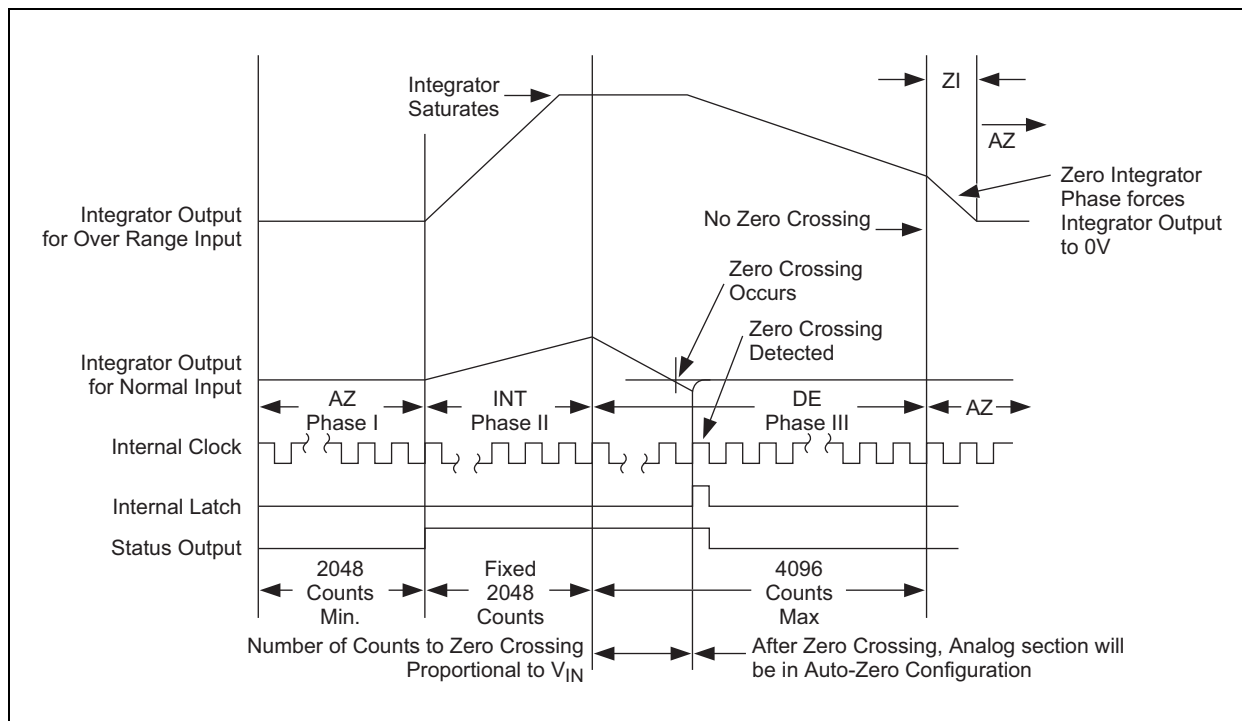

FIGURE 3-1: Conversion Timing (RUN/HOLD) Pin High
The Typical Application diagram on page 3 shows a block diagram of the analog section of the TC7109A. The circuit will perform conversions at a rate determined by the clock frequency (8192 clock periods per cycle), when the RUN/HOLD input is left open or connected to V+. Each measurement cycle is divided into four phases, as shown in Figure 3-1. They are: (1) Auto-Zero (AZ), (2) Signal Integrate (INT), (3) Reference De-integrate (DE), and (4) Zero Integrator (ZI).
During ZI, the reference capacitor is charged to the reference voltage. The signal inputs are disconnected from the buffer and integrator. The comparator output is connected to the buffer input, causing the integrator output to be driven rapidly to 0V (Figure 3-1). The ZI phase only occurs following an over range and lasts for a maximum of 1024 clock periods.
During a conversion cycle, the Status output goes high at the beginning of signal integrate and goes low one-half clock period after new data from the conversion has been stored in the output latches (see Figure 3-1). The signal may be used as a "data valid" flag to drive interrupts, or for monitoring the status of the converter. (Data will not change while status is low.)
With the RUN/HOLD input high, or open, the circuit operates normally as a dual slope ADC, as shown in Figure 3-1. Conversion cycles operate continuously with the output latches updated after zero crossing in the De-integrate mode. An internal pull-up resistor is provided to ensure a HIGH level with an open input.